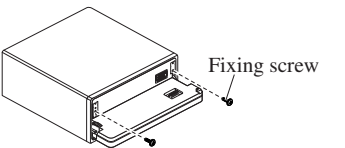

Fig. 14
4. Fix the front panel to the unit using fixing screws. (Fig. 14)